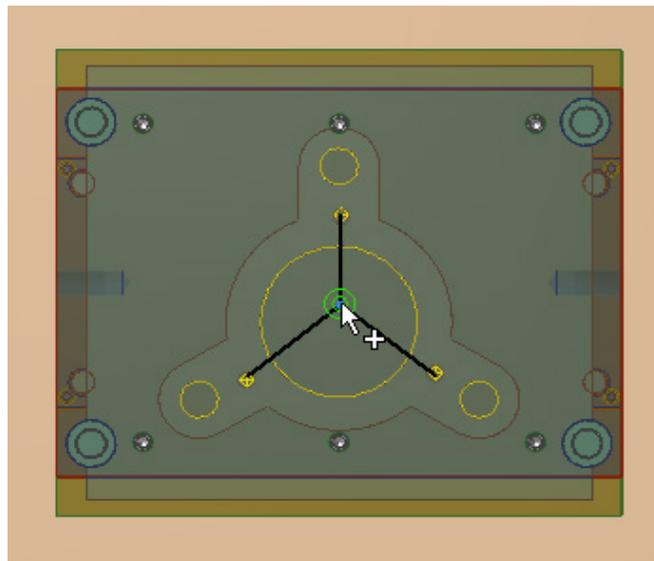

Figure 19-67 The point to be selected
4. Select the point in the modeling area where the three runners meet, refer to Figure 19-67; preview of the sprue bushing is displayed.